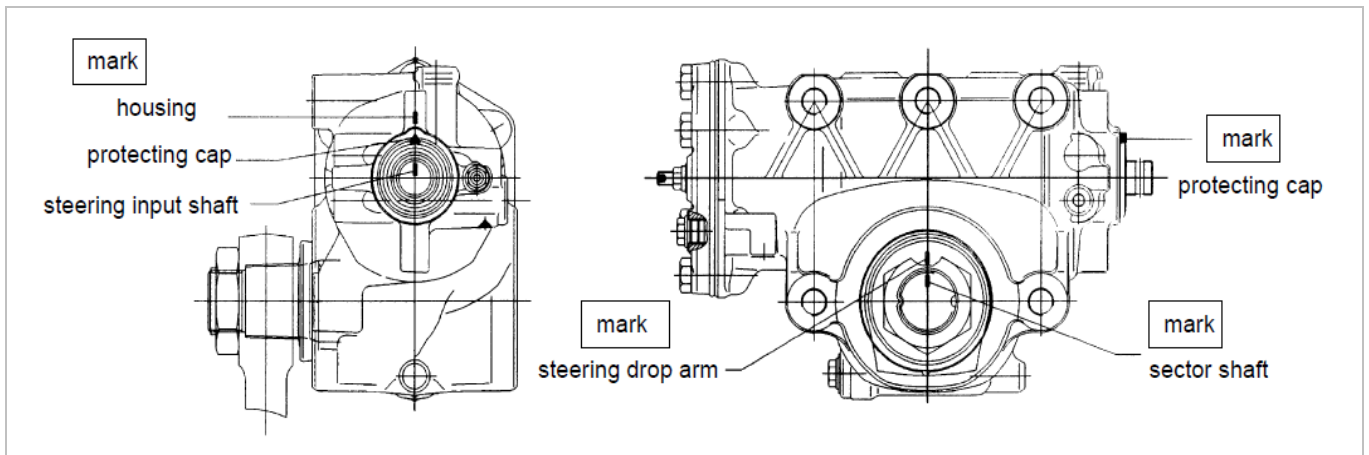

Fig. 25: Checking the straight ahead driving position of the steering gear
3. Rotate it further until the marks coincide (refer to Fig. 25).